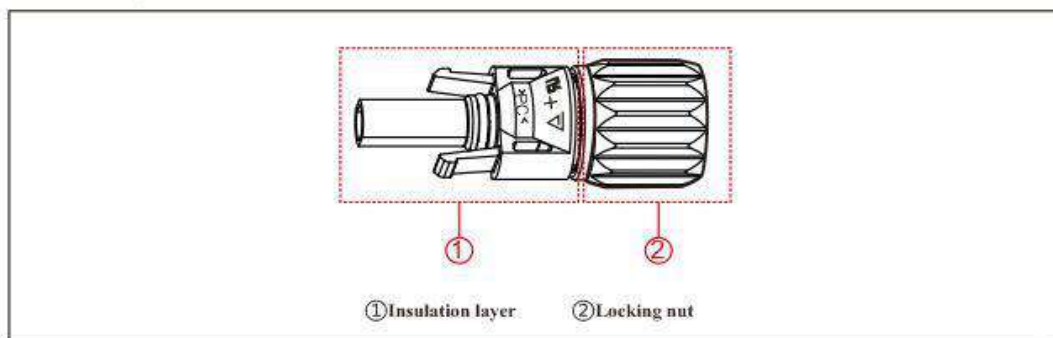
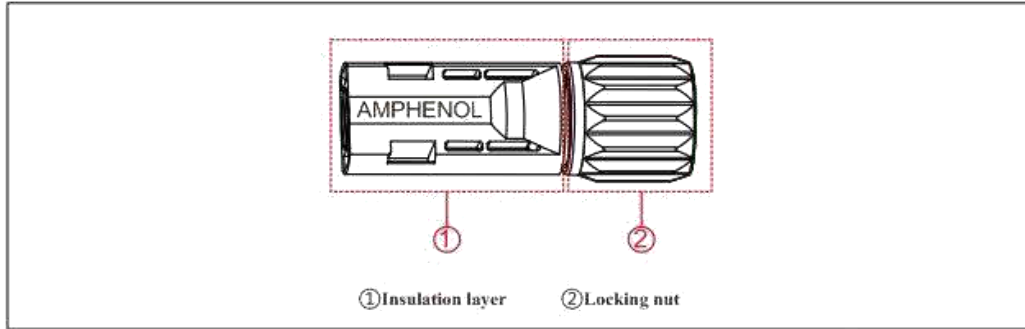

Figure 5.9 Positive connector compositions
Figure 5.10 Negative connector
c. Connectors of PV Strings: Positive and negative DC input connectors are used, as shown in Figure 5.9 and Figure 5.10.